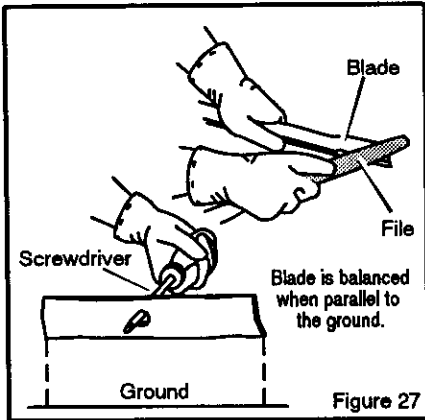

Figure 27
4. Sharpen the blade with a file. Make sure you keep the original beveled cutting edge (Figure 27).